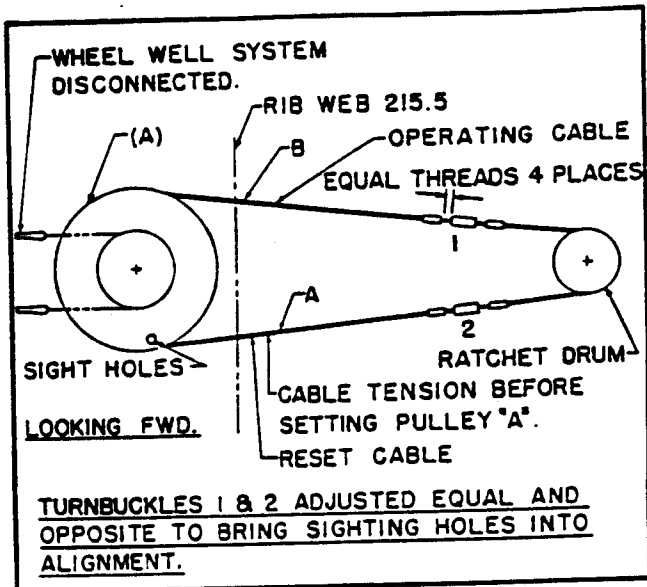

Figure 30. Rigging Main Gear Emergency Control Cables
5. Re-check sight holes in Quad. A, figure 30.